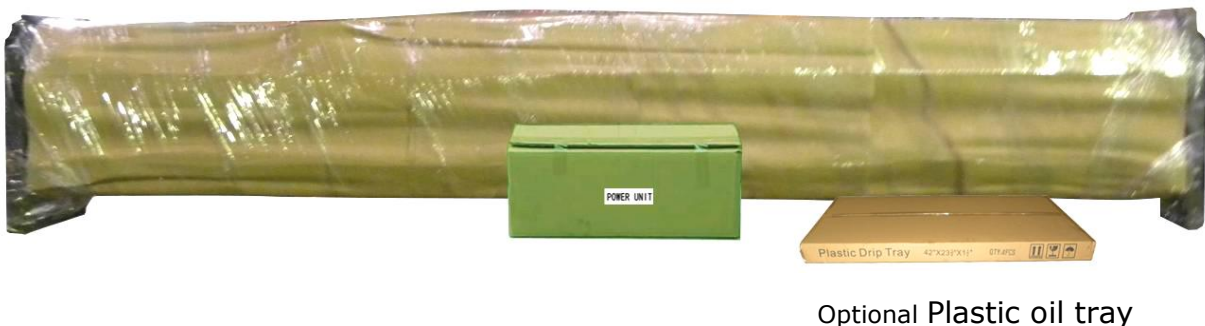

Fig. 4
1. Packaged lift and Hydraulic Power Unit (See Fig. 4).